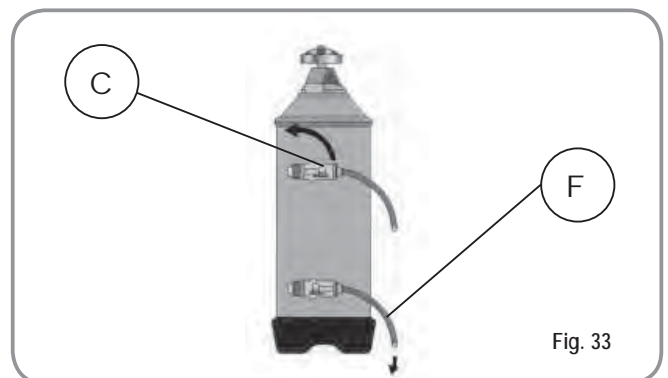

Fig. 33
2) Put the cap back on and reposition lever C moving it towards the left (Fig. 33), and allowing tube F to discharge the salty water until it has been eliminated and the water becomes fresh again (about half an hour).